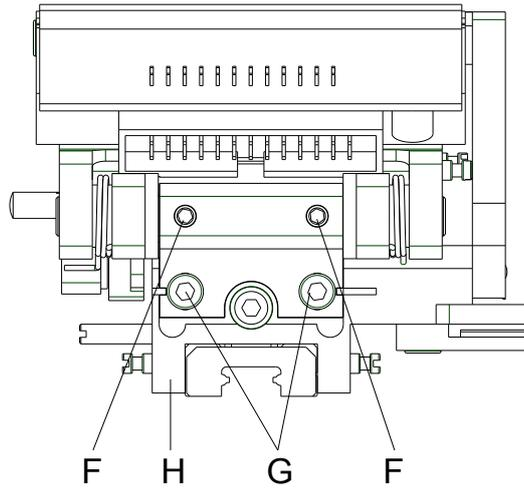

Figure 17
4. Remove the Allen head screws (G, Figure 17).
6. Start the necessary service work, e.g. replacing springs (C) or printhead fastener.
The component can be decomposed in more individual parts. Unscrew the pillars (F) and remove the printhead shaft (D). At installation take care of parallelism of slots next to the screws (G) to the slots in the guiding carriage (H, Figure 17).